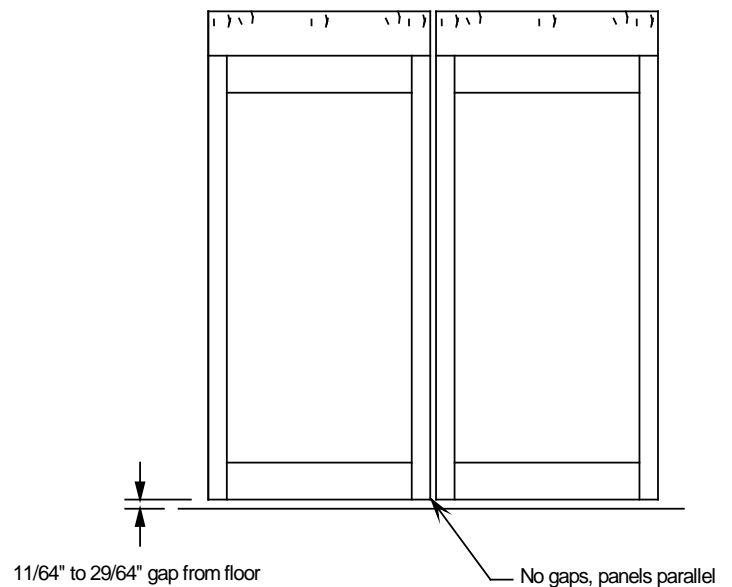

Figure 22
1. Door height from finished floor is adjustable from  $11/64$  inch to  $29/64$  inch. (See Figure 22)